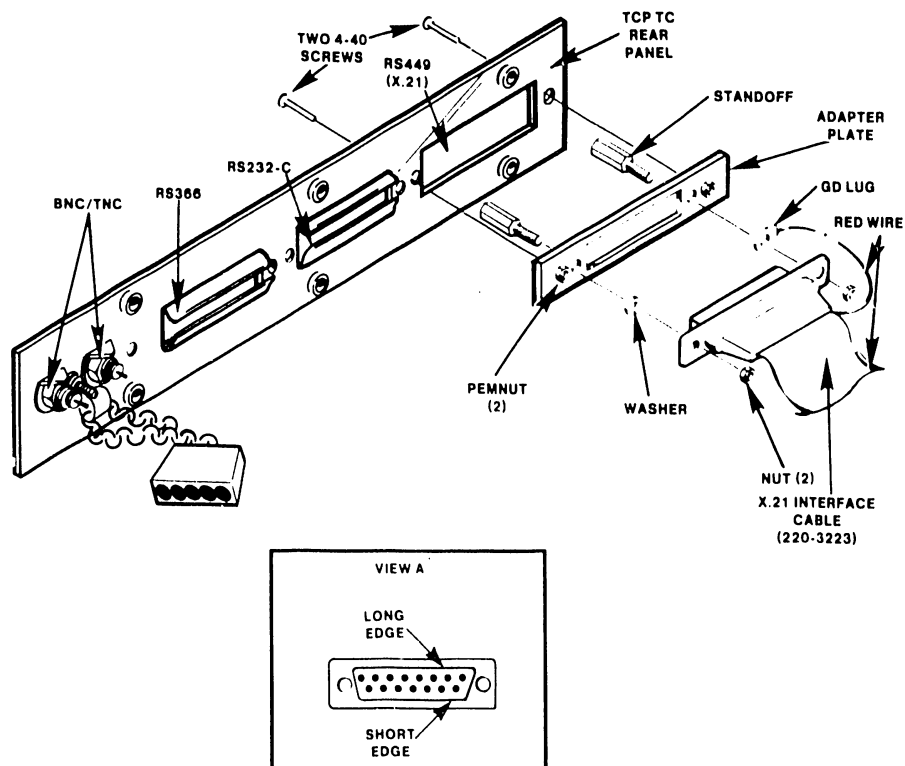

Figure 4-32 X.21 Interface Cable Installation
1. Position the TC rear panel as shown in Figure 4-32 (internal side of TC rear panel).
2. Fit the X.21 cable "D" connector to the adapter plate. Make certain that the long edge of the "D" connector is on top (Figure 4-32).
3. Insert two threaded standoffs (P/N 478-0791) through the X.21 adapter plate (P/N 452-0274) and "D" connector screw holes. Ensure pemnuts on adapter plate are facing as shown in Figure 4-32.
4. Place the X.21 cable "D" connector on the standoffs (Figure 4-32).